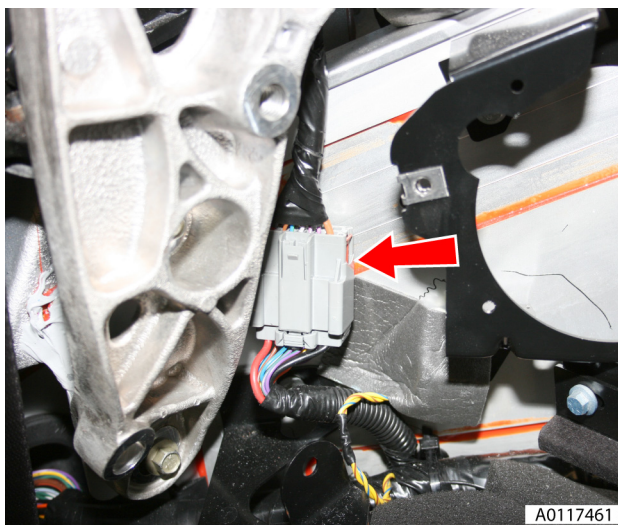

Fig. 11
25. Disconnect multiplug (RH).
26. Release multiplug from body and disconnect and feed through into tonneau area (RH) (see Fig. 11).